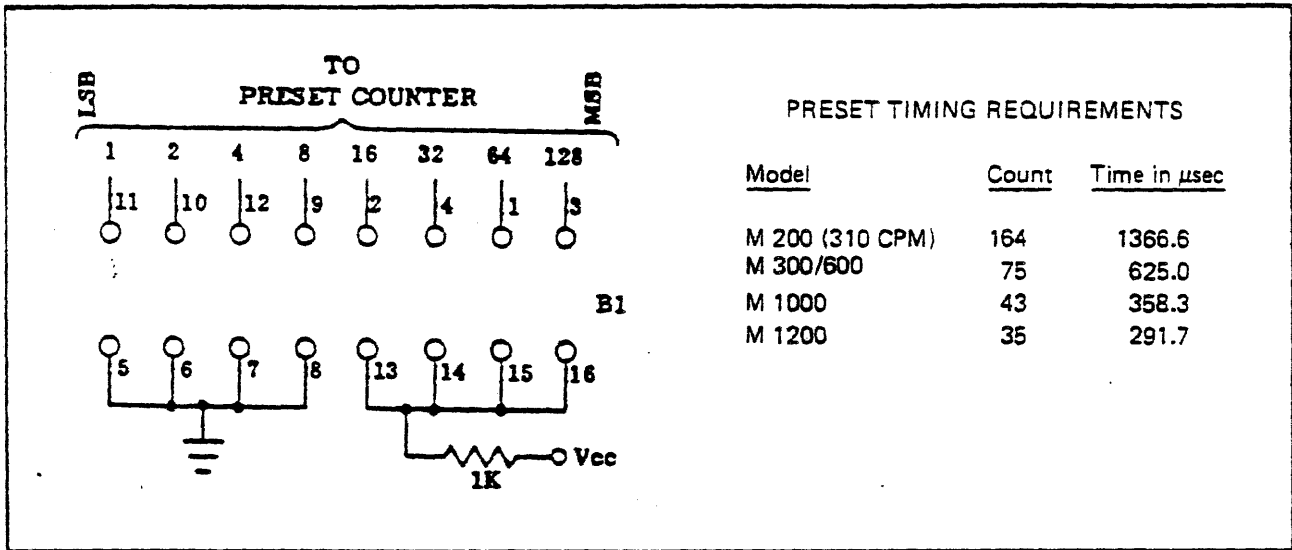

Figure 6-19. Preset Counter Strapping
- c. Change strapping on Jumper Module 1B to obtain required Preset count (Figure 6-19).